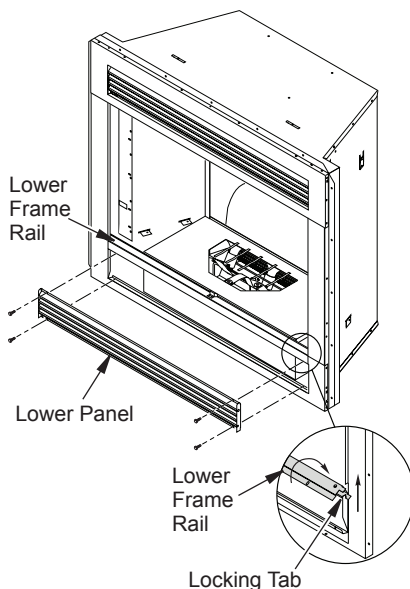

Figure 40 - Removing Lower Louver Panel and Frame Rail
2. Remove 4 hex screws on lower louver panel and detach louver assembly from front face (see Figure 40).
3. Rotate top edge of lower frame rail inward and lift upward until locking tabs detach from front face (see Figure 40).